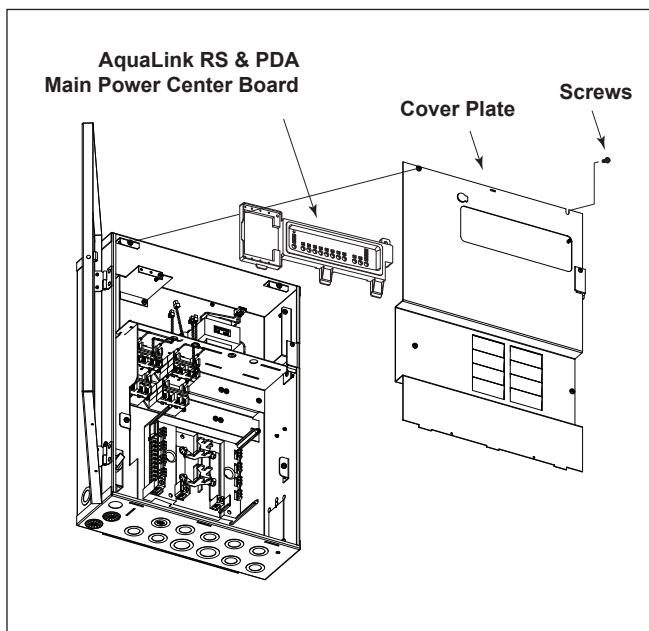
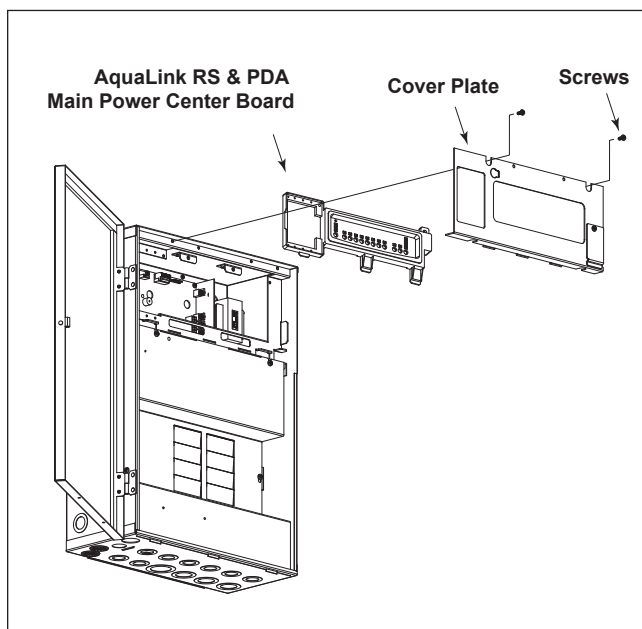

Figure 1. Power Center Model 6613/6614
Figure 2. Power Center Model 6613AP/6614AP
- a. Remove the top two (2) screws that secure the cover plate to the power center. Remove the cover plate as shown in Figure 1.
- a. Remove the two (2) screws from faceplate as shown in Figure 2, and fold down the faceplate/ bezel assembly to access the back of the main power center board.
11. Remove all seven (7) screws that secure the PCB to the bezel.
- b. Remove the two (2) screws that secure the plastic power center bezel assembly.
- a. Remove the two (2) screws from the faceplate as shown in Figure 2, and fold down the faceplate/bezel assembly to access the back of the main power center board.